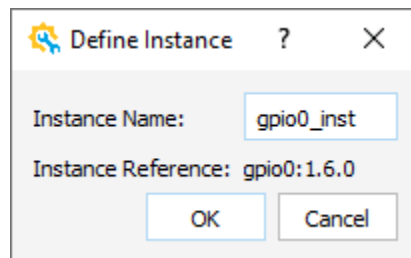

Figure 2.22. Design Instance Dialog Box
7. Click **Finish**. The **Define Instance** dialog box opens (Figure 2.22).